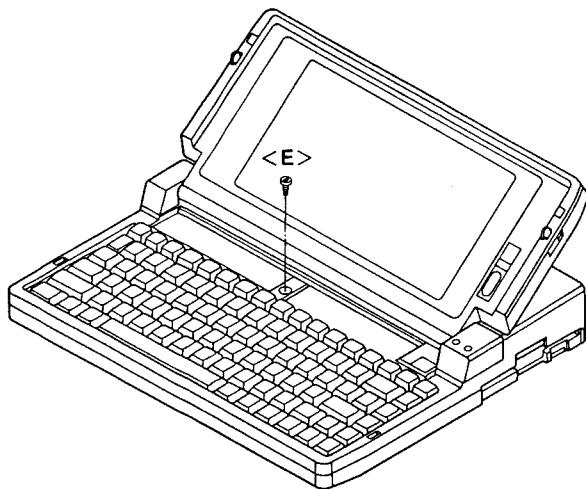

Figure 7
- (11) Remove one screw <E> ($3\phi \times 6\text{mm}$) as shown in Figure 7.